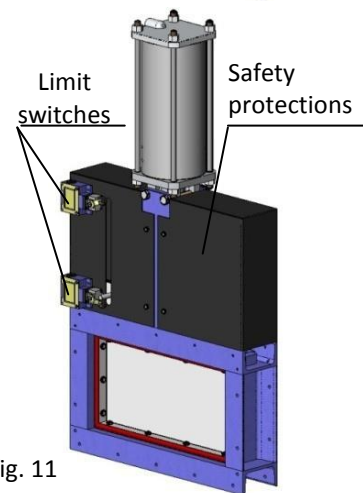

fig. 11
-Mechanical Limit Switches, Inductive Switches and Positioners: Limit switches or inductive switches are installed to indicate precise valve position, as well as positioners to indicate continuous position (Fig. 11).
-Gate Safety Protection: In accordance with European Safety Standards ("EC" marking), CMO automated valves are equipped with gate guards, to prevent any objects from being accidentally caught in the gate (Fig. 11).